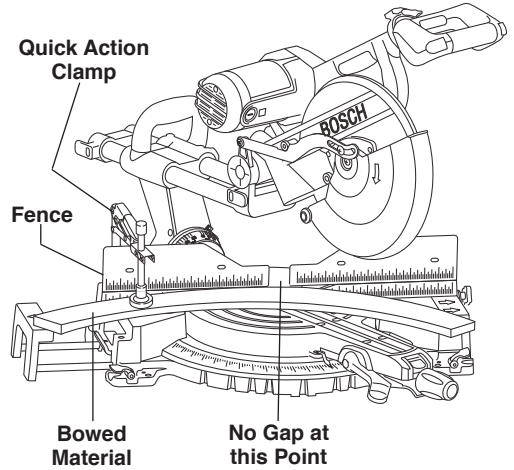

Figure 41. Bowed Material
**⚠ WARNING** If workpiece is bowed or warped, clamp it with the outside bowed face toward the fence. Always make certain that there is no gap between the workpiece, fence and table along the line of cut. Bent or warped workpieces can twist or rock and may cause binding on the spinning saw blade while cutting (Figure 41).